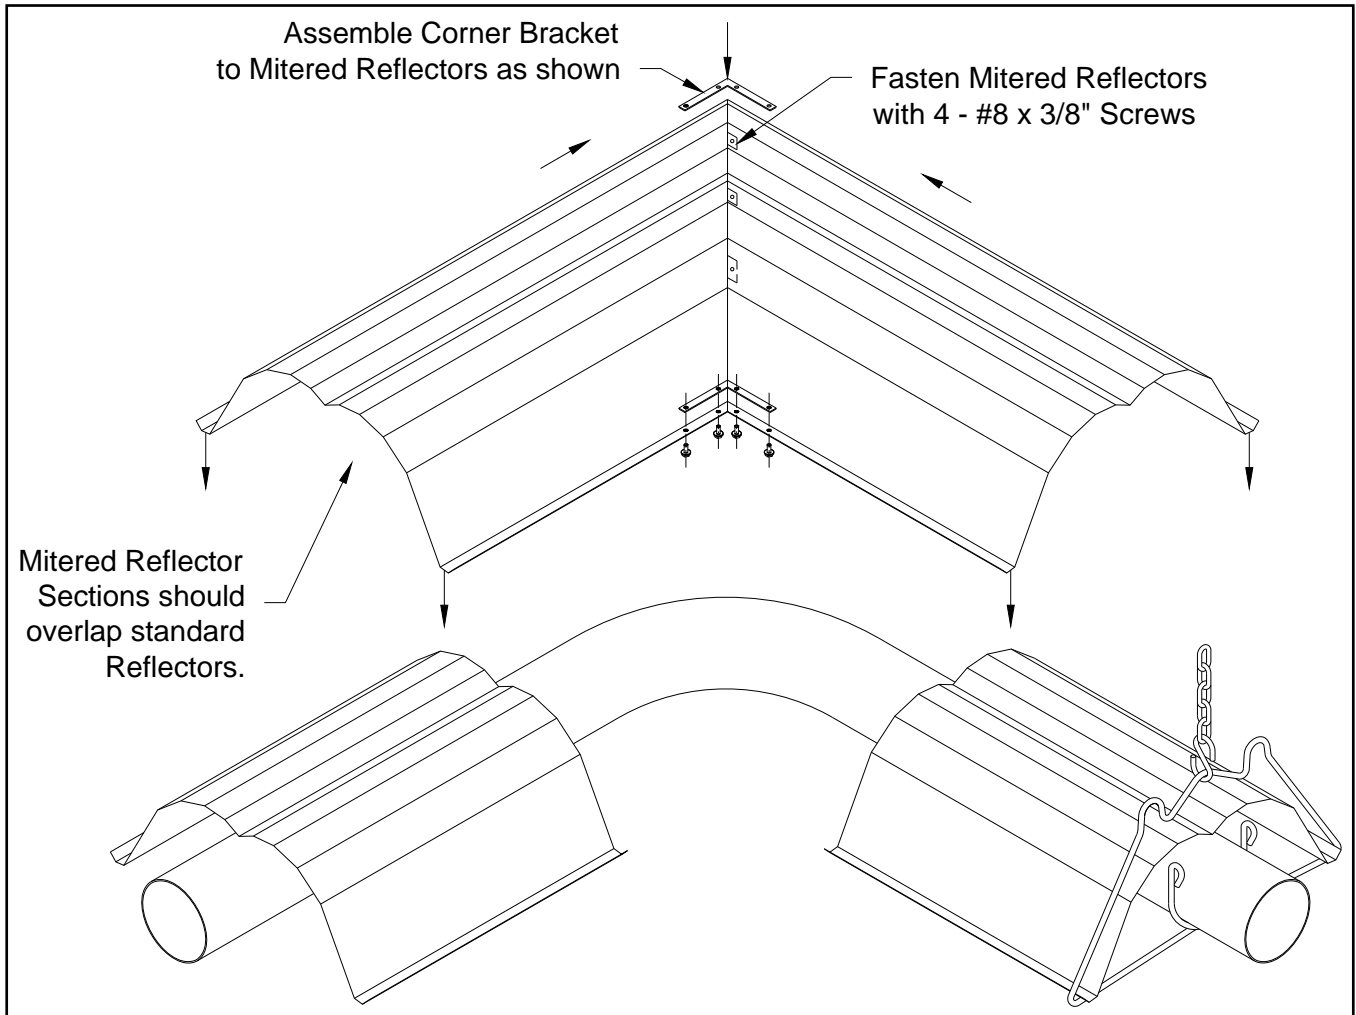

Figure 19: Mitered Reflector Installation
Note: Elbows or U-tubes are typically installed without reflectors. To reduce the above clearance to combustibles distance use mitered reflectors (Figure 19) and refer to Clearance to Combustibles information.
- If used, install the Mitered Reflector as shown below (Figure 19).